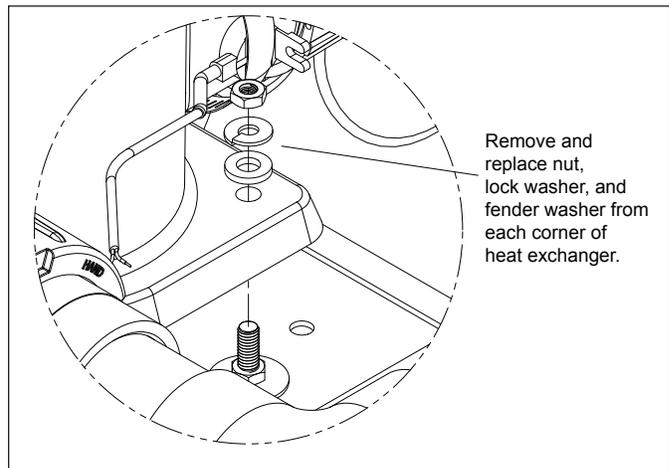

Figure 7. Remove and Replace Heat Exchanger Hardware
6. Remove the nut, lock washer, and fender washer that secure each of the four (4) corners of the heat exchanger to the base. See Figure 7.
2. Secure the nut, lock washer, and fender washer to each of the four (4) corners of the heat exchanger to the base. See Figure 7.
- Secure the compressor to the base, as shown in Figure 7. Use the nuts, lock washers, and fender washers to secure the compressor.